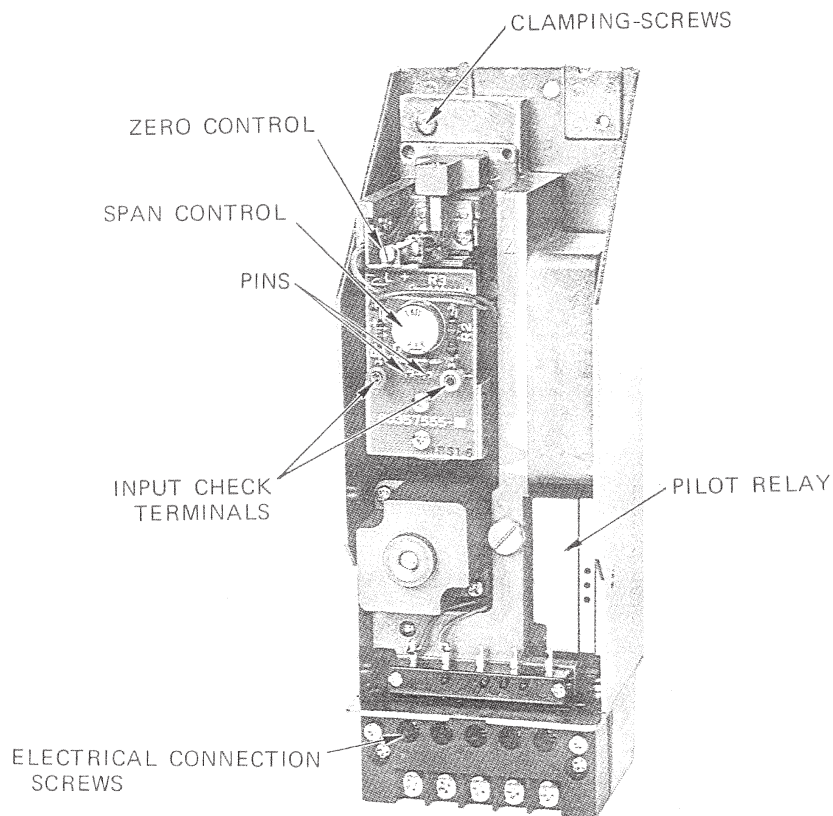

Fig. 5. Layout of Components
Note: An input check diode (equivalent impedance 300 ohms) is provided in the input circuit of I/P converter. When converter or receiving instruments are operated in parallel (in series for the DC current signal), it is possible that overloading is caused to the output circuit of the signal source instrument (such as a controller). To prevent overloading, short the diode by connecting the socket jumper to the two pins which is located between the CHECK terminals on the front panel of the converter. (See Fig. 5.)
- (1) Remove the clamping-screws (see Fig. 5). Loosen the five electrical connection screws.
- (2) Exercising care not to touch the converting mechanism, detach the chassis assembly from the casing by pulling the chassis assembly upward.